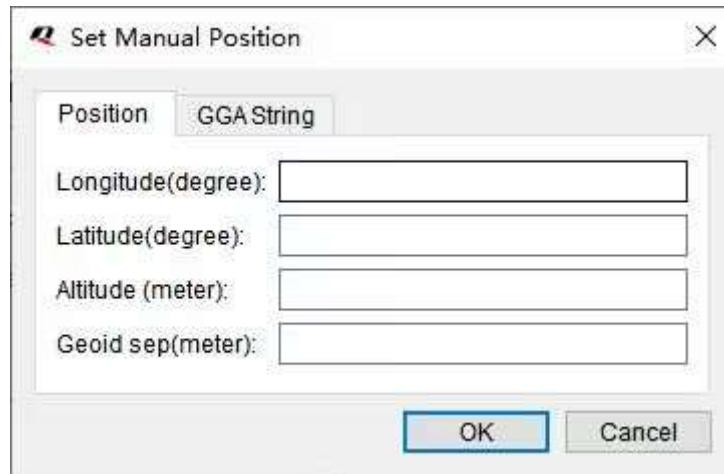

Figure 13: Set Manual Position
- Step 5** Tick the checkbox next to “Use manual position” and a window as shown in Figure 13: Set Manual Position pops up for entering the relevant data; otherwise the fixed position of the module will be used.
- Step 3** Tick the checkbox next to “**Use manual position**” and a window as shown in Figure 13: Set Manual Position pops up for entering the relevant data; otherwise the fixed position of the module will be used.